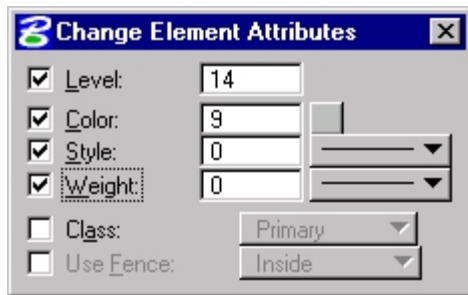

Figure 6 – Change Element Attributes dialog box
2. Select the types of attributes to change (Level, Color, Style, Weight and Class) from the Change Element Attributes dialog box (Figure 6).